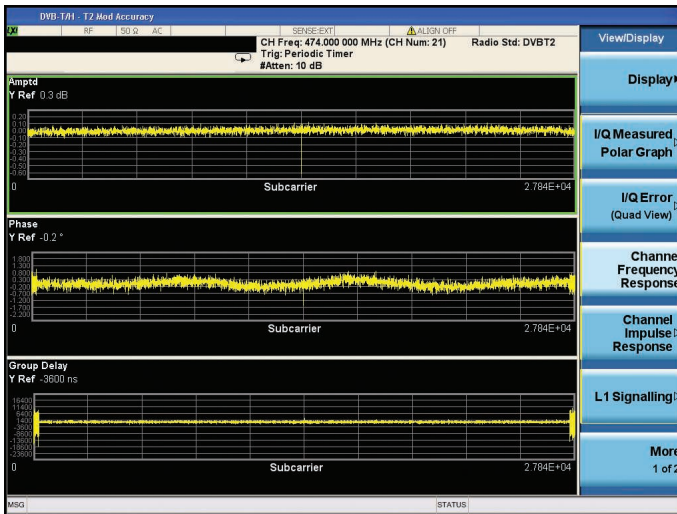

Figure 27. Channel frequency response view
- **Channel frequency response** view (Figure 27):
View the channel frequency response (Figure 27)	[View/Display] {Channel Frequency Response}